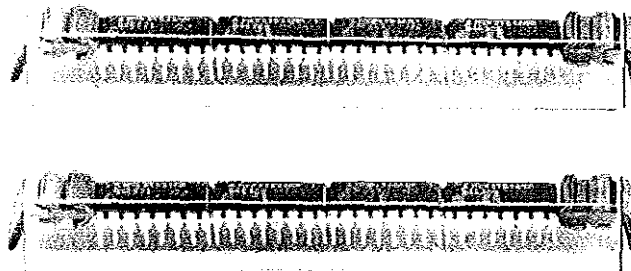

Fig. 3 - Memory Expansion
4.02 The Digital Announcer has enough memory to store approximately 64 seconds of announcement time. The maximum amount of memory which can be used is equal to about 518 seconds. The announcer can accommodate up to 128 seconds of memory in sockets on the main circuit board. Memory (message length) is extended by installing additional RAM in groups of four or eight chips (32 and 64 seconds of message). Refer figure 3.